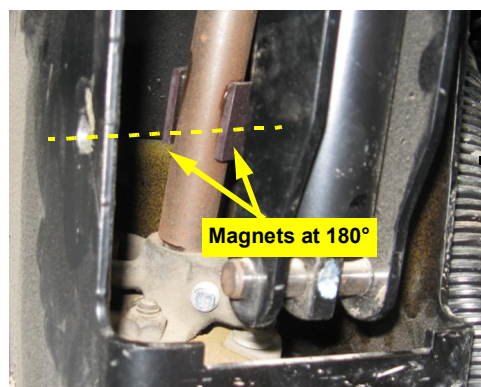

Figure 1c: Installed magnets
- c. Clean a magnet-length area of the steering shaft centered on the hole you drilled in the steering column. Using the two-part epoxy **SB**, attach magnets **SA** 180° apart on the steering shaft. Align the center of the magnets with the center of the hole you drilled in the column (Figure 1c).